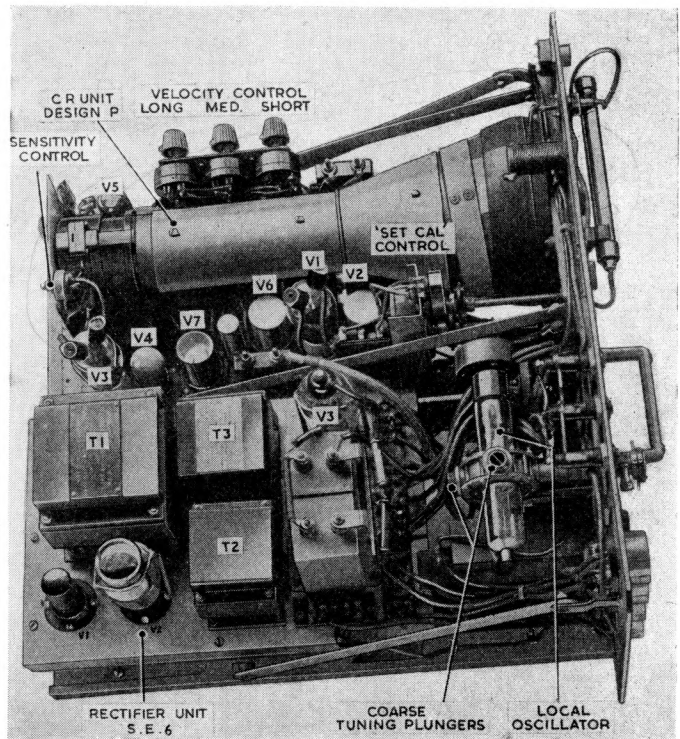

Fig. 11. Monitoring unit Type 56 : interior
28. The transmitter wavelength should have been noted previously (*para. 15*). If it was found to be outside the range of 9.9 to 10.1 cm. it will be necessary to alter the coarse tuning plungers of the local oscillator (*fig. 11*). To do this, the upper and lower chassis of monitor Type 53 should be withdrawn slightly by removing the eight securing bolts. If the transmitter wavelength is greater than 10.1 cm., unscrew both plungers two turns; if it is less than 9.9 cm. screw them in two turns. If it is found impossible to make two turns when the wavelength is short, unscrew the plungers three turns, thus tuning the local oscillator to a longer wavelength than that of the transmitter.
29. Turn the gain control (fig. 10) fully clockwise, then back by a quarter turn. Rotate the aerial until a permanent echo is observed on the monitor trace. In the case of the height finder (R.V.461C), it may be necessary to tilt the aerial by 3 to 4 deg. If no signals appear, the receiving chain will probably be well off tune. Start therefore by observing the ground ray at the start of the trace. Make this as wide as possible by turning the short velocity pre-set knob fully clockwise (fig. 11). Set the local oscillator tuning knob to its mid position and alter one of the local oscillator coarse tuning plungers. The shape of the ground ray will be seen to alter as the plunger is turned, and small signals within the ground ray will pass through their maxima. Tune the second plunger in a similar manner for maximum signal. Next turn the oscillator tuning knob, likewise for maximum signal. Do not forget to adjust the crystal current each time (*para. 25*).